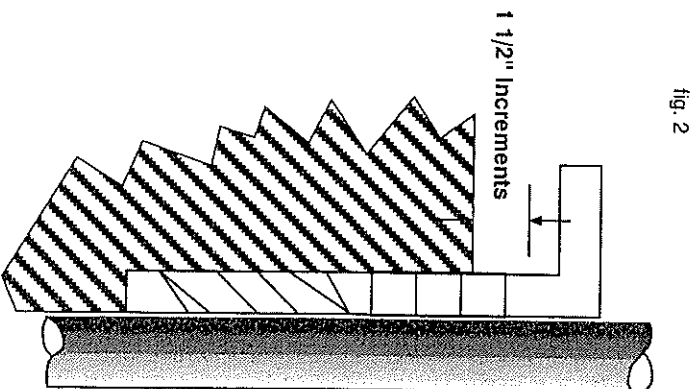

fig. 2
3. Install the QuickSet and then the QuickBushings, ensuring that all rings are properly seated. Prior to compression, the top ring will extend beyond the stuffing box. Using the QuickRule, mark the side of the gland follower at a distance of 1-1/2 increments from the face of the stuffing box (see fig. 2). Tighten the gland follower until the mark is aligned with the face of the stuffing box.